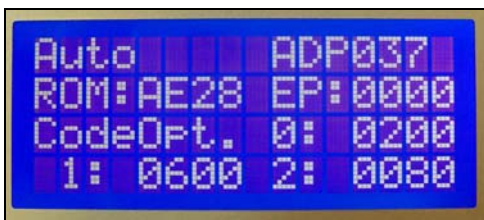

Figure 3-11a LCD Start-up Display & Subsequent Auto-Display of Source Code Checksum & Code Option
1. Disconnect the USB cable and plug the power jack of the power adapter DC +18V to the UWTR power connector. The UWTR LCD will then initially display the UWTR Writer hardware device version. Two seconds later, the LCD display auto-changes to show source code checksum and code option (Fig 3-11a).